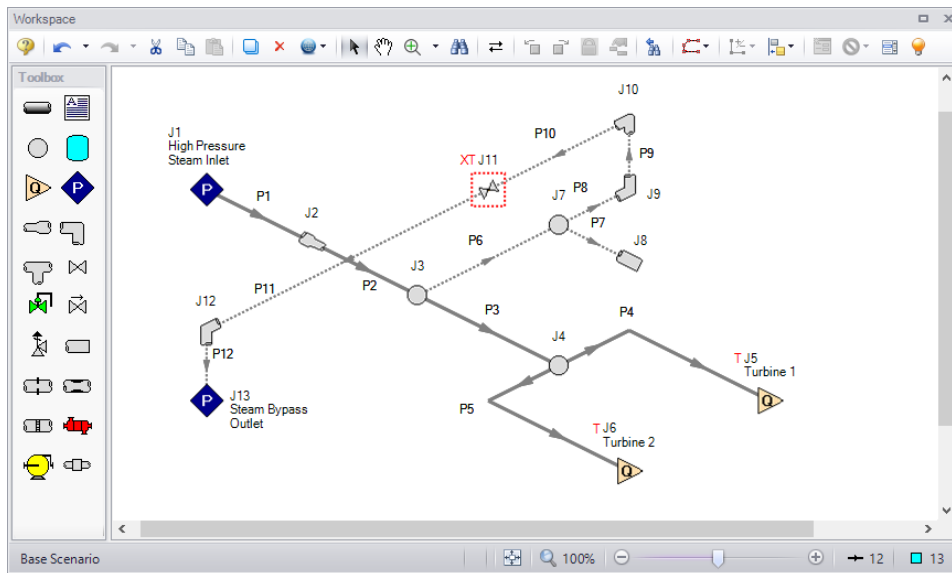

Figure 2: The isometric layout with the grid turned off
6. The grid can be shown or turned off in the Arrange menu, as shown in Figure 2